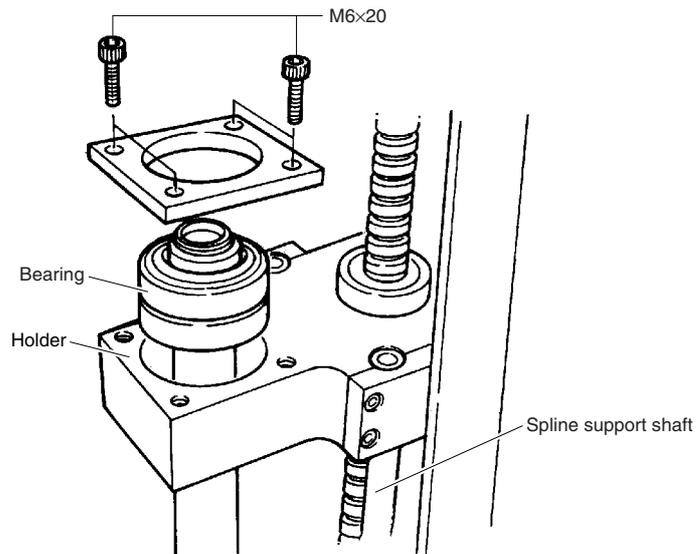

Fig. 5-54
- 7) Remove the bolts (M6×20L, 4 pieces) securing the bearing to the upper end of the spline and remove the bearing mount plate. (See Fig. 5-54.)
- 24) Put the bearing into the holder and tighten the bolts (M6×20L, 4 pieces) to secure the bearing mount plate to the holder (See Fig. 5-54.)